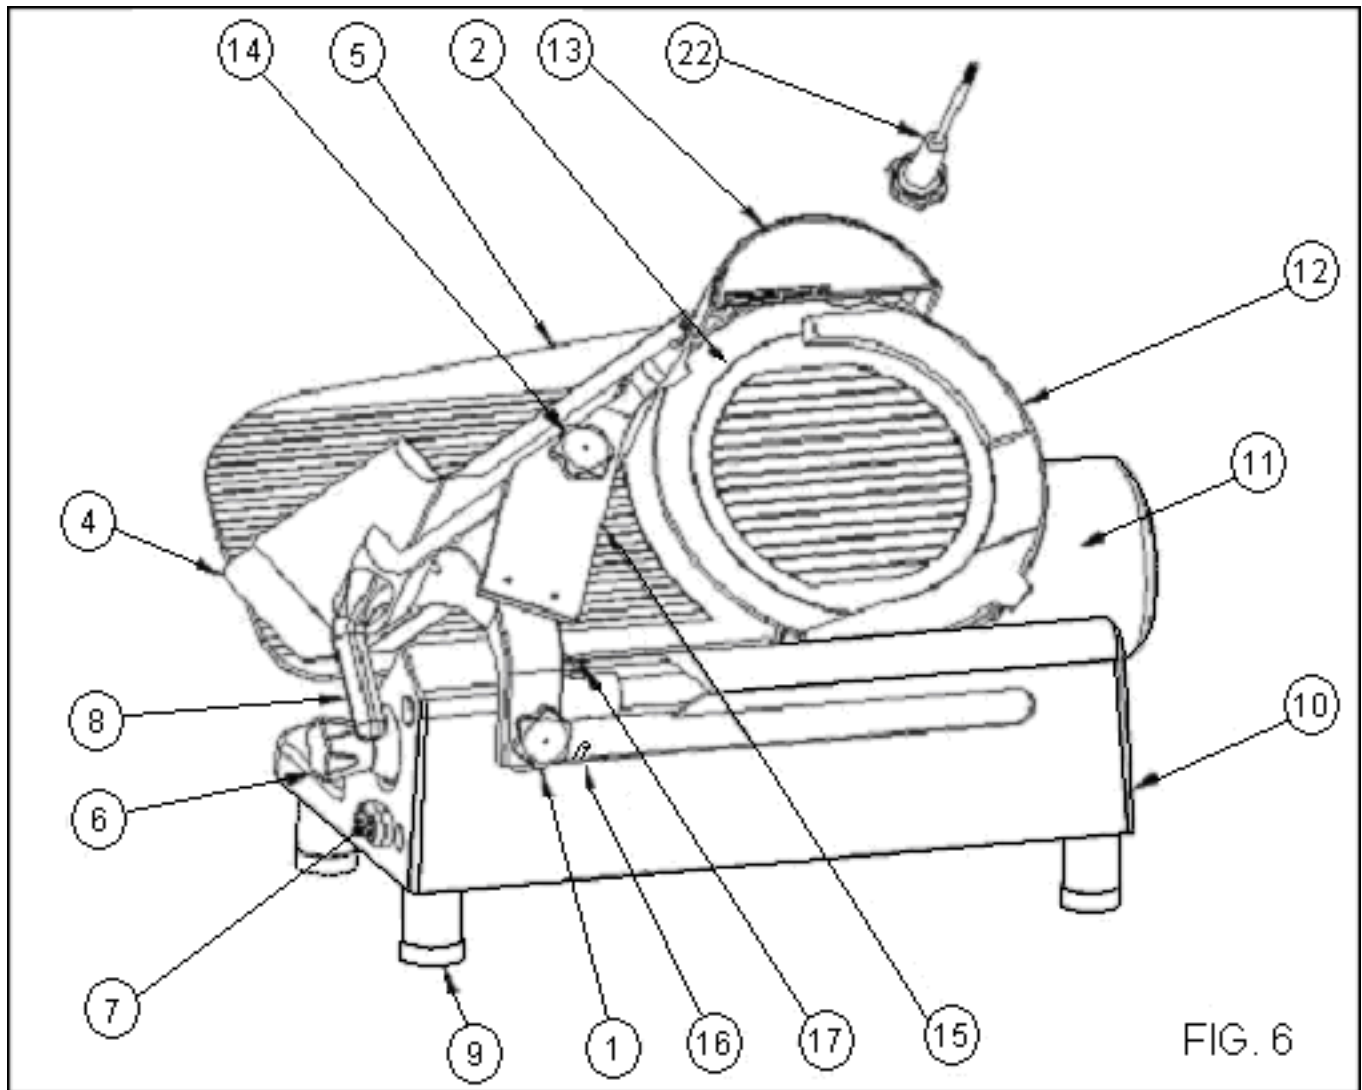

FIG. 6
1.- **SLIDE RODS:** YOU MUST LUBRICATE THE SLICER WITH LIGHT OIL AT LEAST EVERY 100 HOURS OF USE OR 30 DAYS. THE POINTS TO APPLY OIL ARE (16) AND (17), BOTH SHOWN IN FIG 6.
B.- LOOSEN THE KNOB (21) UNDER THE SHARPENING ASSEMBLY UNTIL IT SPRINGS UP